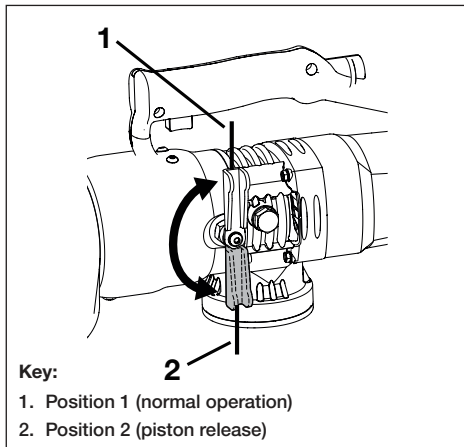

Figure 8, Piston Release Lever
Before using the cutter, check that the piston release lever is moved fully clockwise to position 1. See Figure 8. This will enable the piston and moving blade to advance when the on-off trigger is depressed.
4. Be sure that the piston release lever is turned fully clockwise to position 1. See Figure 8.
10. After cutting is completed, release the trigger and then move the piston release lever counterclockwise to position 2. See Figure 8.